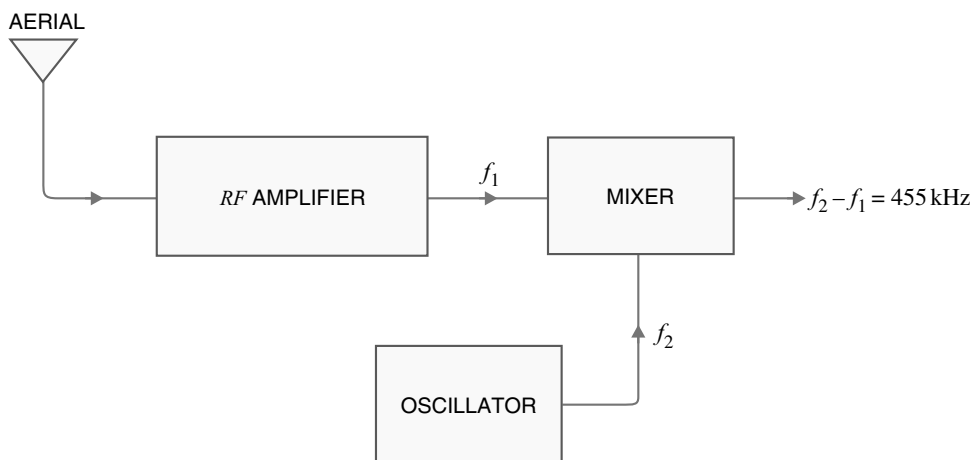

Fig. 14.27
**2. Superheterodyne receiver.** The shortcomings of straight radio receiver were overcome by the invention of superheterodyne receiver by Major Edwin H. Armstrong during the First World War. At present, all modern receivers utilise the superheterodyne circuit. In this type of radio receiver, the selected radio frequency is converted to a fixed lower value, called *intermediate frequency (IF)*. This is achieved by a special electronic circuit called *mixer circuit*. There is a local oscillator in the radio receiver itself. This oscillator produces high frequency waves. The selected radio frequency is mixed with the high frequency wave by the mixer circuit. In this process, beats are produced and the *mixer produces a frequency equal to the difference between local oscillator and radio wave frequency*. As explained later, the circuit is so designed that oscillator always produces a frequency 455 kHz above the selected radio frequency. Therefore, the mixer will always produce an intermediate frequency of 455 kHz regardless of the station to which the receiver is tuned. For instance, if 600 kHz station is tuned, then local oscillator will produce a frequency of 1055 kHz. Consequently, the output from the mixer will have a frequency of 455 kHz. Fig. 14.27 shows the superheterodyne principle with a block diagram. The selected radio frequency  $f_1$  is mixed